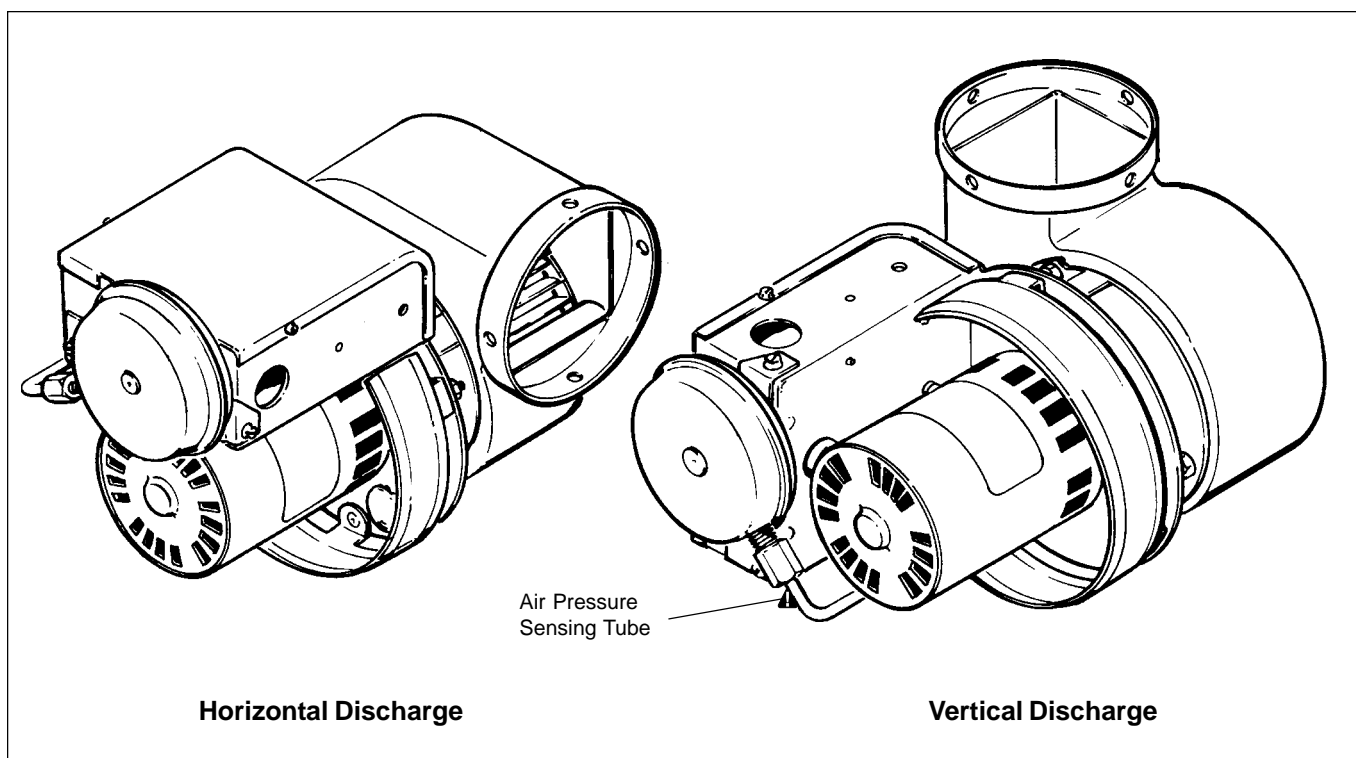

Figure 1. Discharge Options.
3. To prevent bearing wear, and for proper Fan-Prover Switch operation, make sure the Power Venter motor shaft is horizontal (see Fig. 1).
The Power Venter must be mounted with the motor shaft horizontal to ensure proper operation of the Fan-Prover switch and prevent motor bearing wear (see Fig. 1). The installer must supply plumber's strap or threaded rod with nut and washers for mounting.